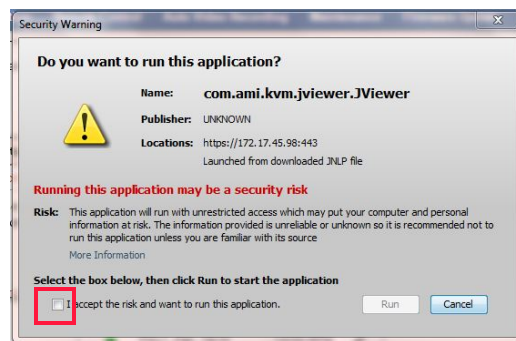

Figure 3.10 Security warning
6. Depending on the chosen browser, a security warning may appear as displayed in Figure 3.10, which asks if the user wants to run the JViewer application